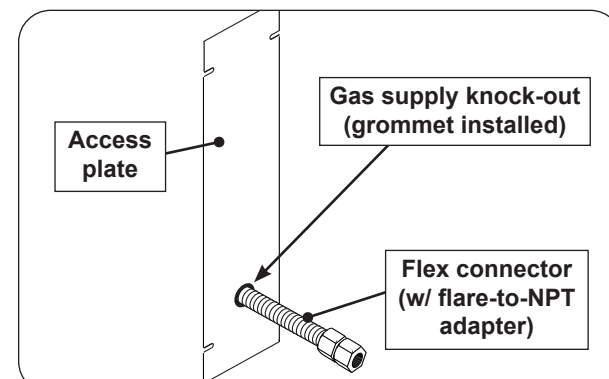

Fig. 30-4 Access plate view & install orientation
2. Remove the plastic grommet (attached to the flex connector) and insert it into the newly created opening. Then route the flex connector through the opening. See Fig. 30-4.